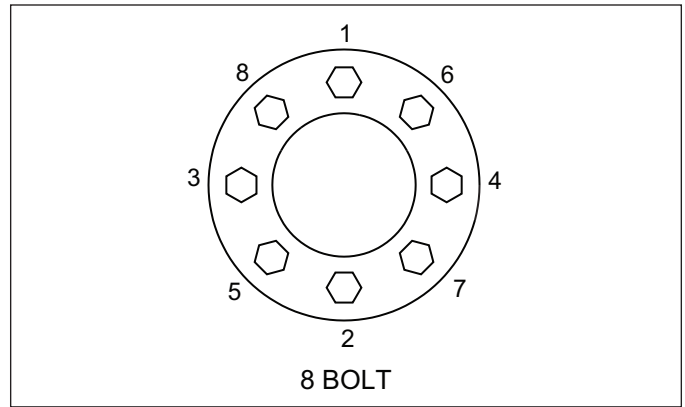

Figure 2-6: Stud Tightening Sequence
2. Re-Install the 3/4-16 Flange Nuts and tighten to 50 ft-lbs using the sequence in **Figure 2-6.** Then tighten to full torque of 220 Ft-Lbs.